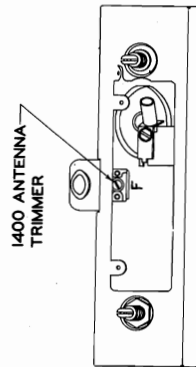

Fig. 5
5. Adjust the 1400 antenna trimmer F (see Fig. 5) for maximum response.